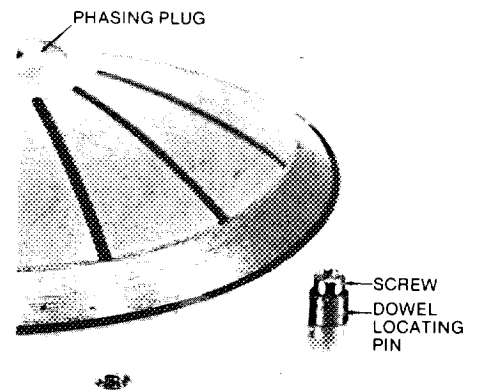

Figure 12. Adjustable Dowel Locating Pin
7. Loosen securing screw of each of two adjustable dowel locating pins until pins move freely (see Figure 12).